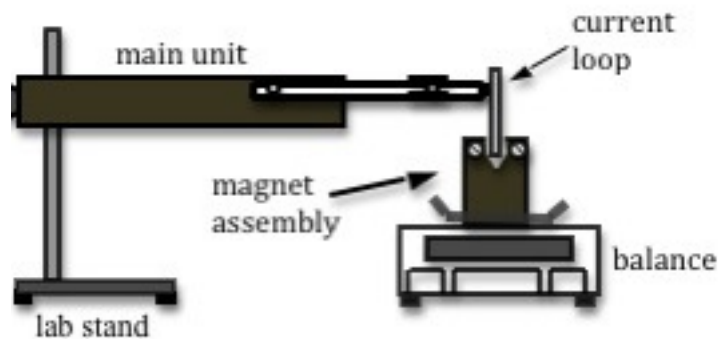

Figure 5: Side view of apparatus
- 6 Position the equipment so that the current loop extends into the top notch of the magnetic assembly without touching the sides or the bottom. See Fig. 5.